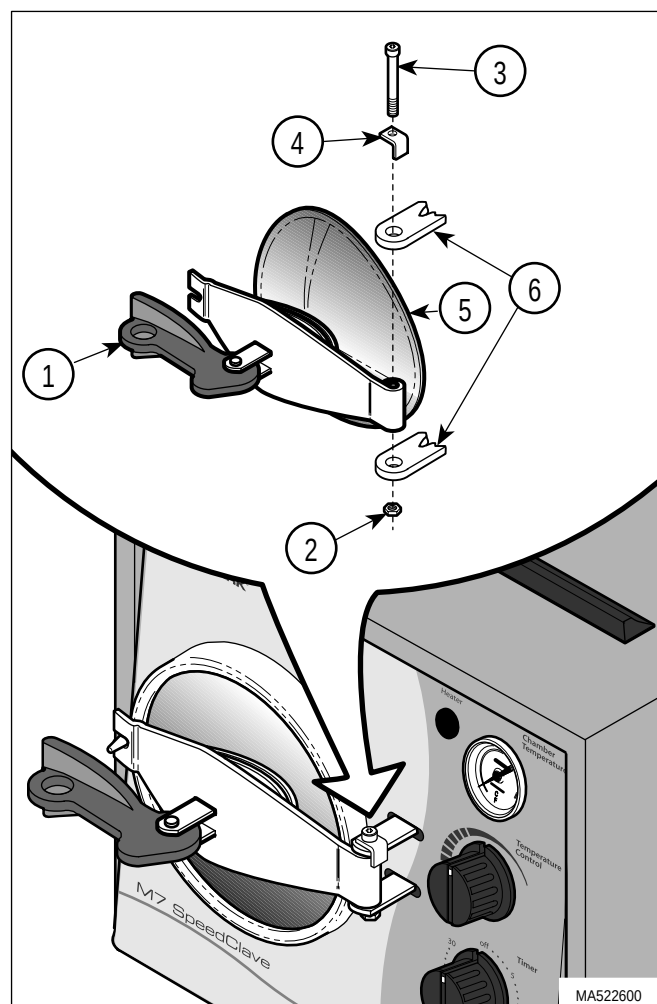

**Figure 4-16. Door Assembly
- (1) Open door handle (1, Figure 4-16) to the unlatched position.
- (2) Remove torque nut (2), screw (3), door stop (4), and door assembly (5) from hinge (6).
- (1) Coat threads of torque nut (2, Figure 4-16) with removable threadlocking adhesive (Loctite 242).